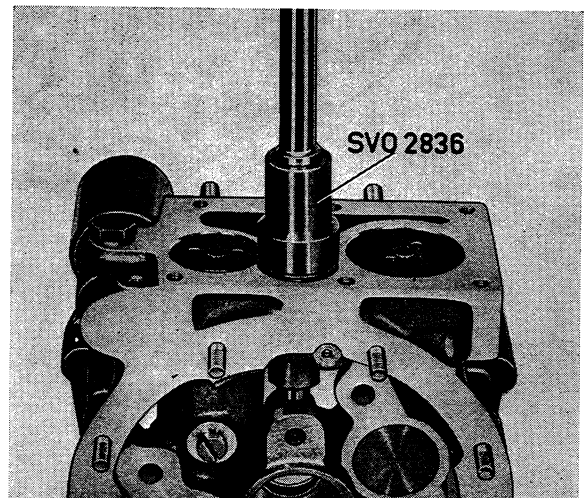
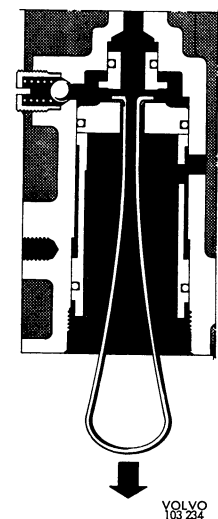

Fig. 4-36. Removing plug
Fig. 4-37. Removing relief valve
2. Remove the plug under the relief valve with tool SVO 2836, see Fig. 4-36. Pull out the large piston of the relief valve, then the spring and spring retainer. Even the low-pressure spring will also be included in the removal. Then pull out the small piston with its spring and spring retainer, also the cylinder and end washer. Use a pair of pliers with narrow jaws for the piston unit and a loop, see Fig. 4-37, for the cylinder and washer.